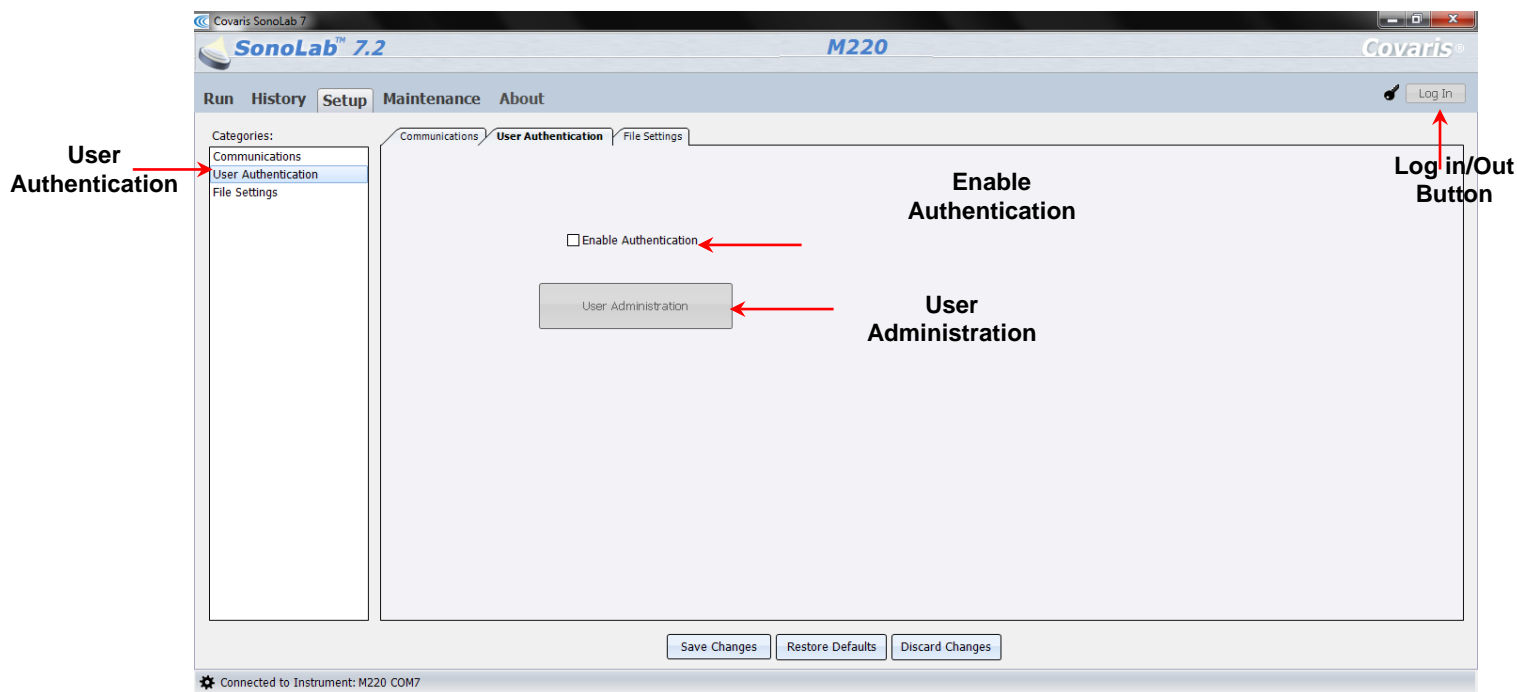

Figure 5.5 - The User Authentication Tab
By selecting the User Authentication tab or category (See Figure 5.5), user can establish 3 levels of users and identify the user by means of a log in/out format.
- Click on the Enable Authentication (See Figure 5.5) check box. Enter user name and password provided by Covaris Customer Service. Click OK to log in.
- Click the Log In button (See Figure 5.5). Enter the username and password provided by Administrator.
- Click the “User Administration” button (See Figure 5.5)